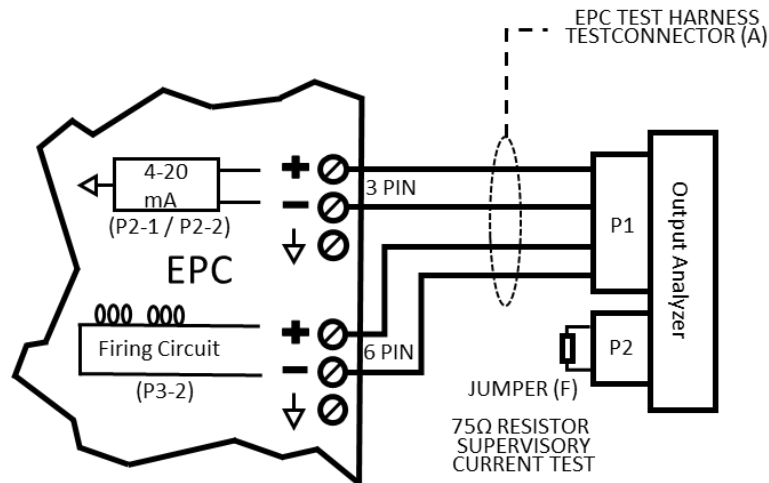

Figure 4 - EPC Series Firing Circuit Supervisory Current Test
3. Use the EPC Test Harness supplied with the Analyzer to connect it to the series firing circuit (P3-2), as shown in Figure 4 below.
4. Connect the 75Ω Resistor to the Analyzer, as shown in Figure 4 above.